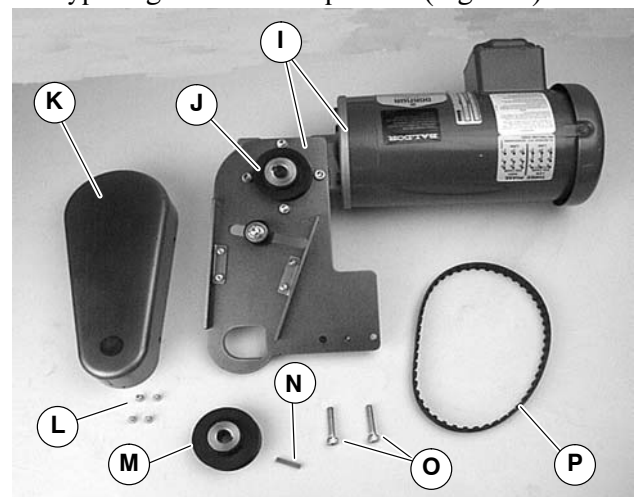

Figure 4
## 1. Typical gearmotor components (Figure 4)
**NOTE:** Flat belt mounting package shown above (Figure 4), cleated belt mounting package similar.